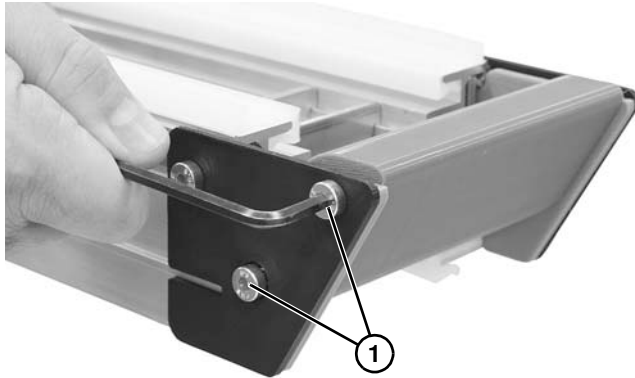

Figure 64
1. On both sides of conveyor, remove two fastening screws (Figure 64, item 1).